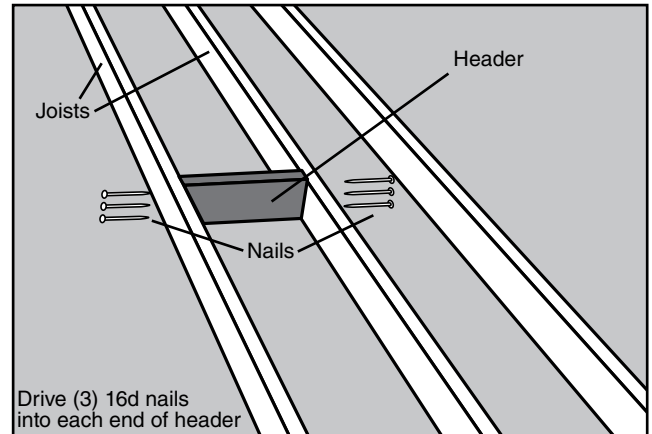

FIGURE 12
- STEP 3.** Place one of these headers at one end of your chosen location (See Figure 12). The header must fit snugly between the joists. Hammer it into position if necessary; if it is more than 1/16" too long, trim it. If it is more than 1/16" too short, cut another piece.
- STEP 4.** Square the header to one joist and drive (3) 16d nails through the joist and into the header. Check for squareness and drive (3) 16d nails through the other joist and into the header (See Figure 12). **It is very important that header board is vertically plumb as well as horizontally square to side joists.**